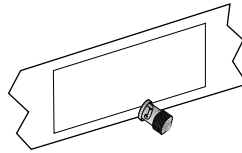

Figure 4-4. The EPIM-C
To connect a thin-net segment to an EPIM-C, refer to Figure 4-4 and perform the following steps:
2. If the Internal Termination switch is in the ON position, connect the thin-net segment directly to the BNC port as shown in Figure 4-4.